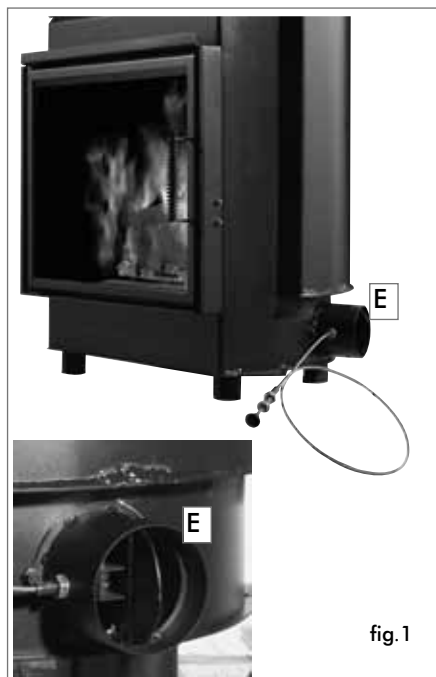

fig.1
- The damper control found on the external air inlet (refer to Fig. 1 on pg. 6), regulates the amount of primary air that is necessary for the combustion process. Pushing the knob will close the external air inlet and pulling the knob will open it.